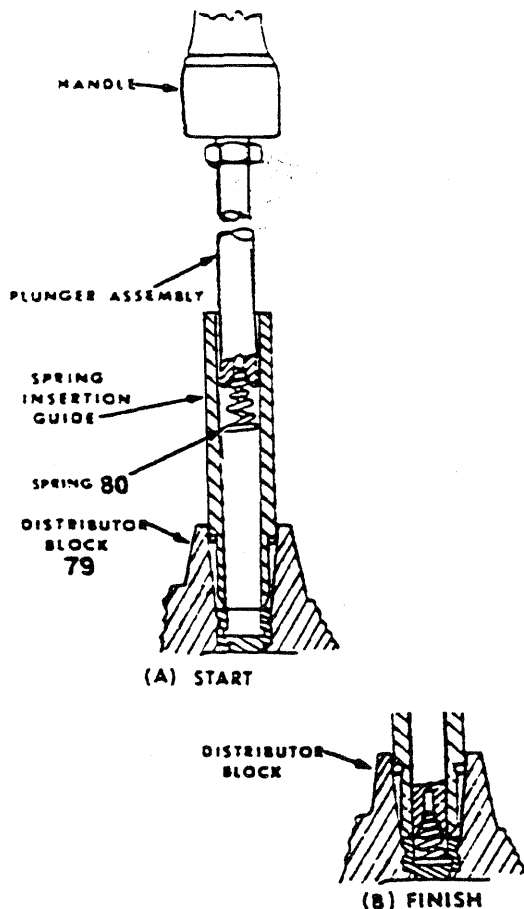

Figure 906. Installing Tower Springs
9.2.3 Assembly of Distributor Block (79) and Gear (72)
- A. If new tower springs (80) are to be installed in distributor block (79), use the 11-8627 Spring Seating Kit. Insert the Spring Insertion Guide in tower outlet hole of distributor block as shown in Figure 906. Place contact spring (80), large end down, in top of the Guide and position the Plunger Assembly with the Handle attached, over the small end of spring. See Figure 906. With a firm counterclockwise pushing motion, seat spring in recess of block tower (79). Spring is properly installed when bottom turn is caught in bushing of block and top turn is approximately centered in tower outlet. See Figure 906. Check spring height in accordance with paragraph 7.2.4, Step F.
- B. Position distributor block (79) in distributor housing (48) and install screws with plain and lockwashers (78). Tighten all screws evenly to a torque of 16 to 20 in-lbs.
- C. Saturate a new, or clean, undamaged felt washer (82) with Distributor Block Lubricant 10-391200. Blot excess oil from washer until flat surfaces take on a "frosted" appearance. Seat washer in recess of block.
- D. Assemble nylon washer (77) and steel skid washer (76) (0.562 in OD) onto gear (72) shaft. Slide large distributor gear shaft (72) into distributor block (79). Install washer (75) (0.750 in OD) and retaining ring (74). Be sure retaining ring snaps firmly into mating groove. If ring is a loose fit, replace it. Do not attempt to reform ring. Do not overexpand ring to install. Install new carbon brush (73) in hole in distributor gear (72) shaft.